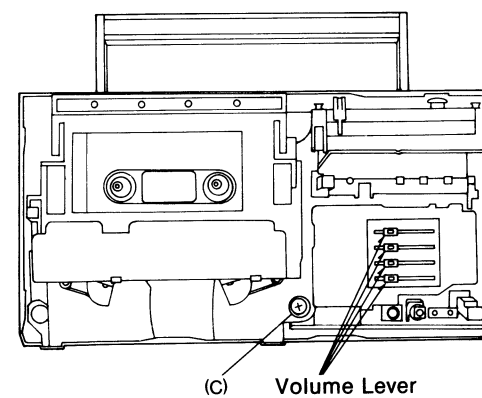

Fig. 3
- ※1. To attach the front cabinet, turn all the controls to their zero "0" positions as shown in Fig. 3, and then after pressing the eject lever, attach the front cabinet.